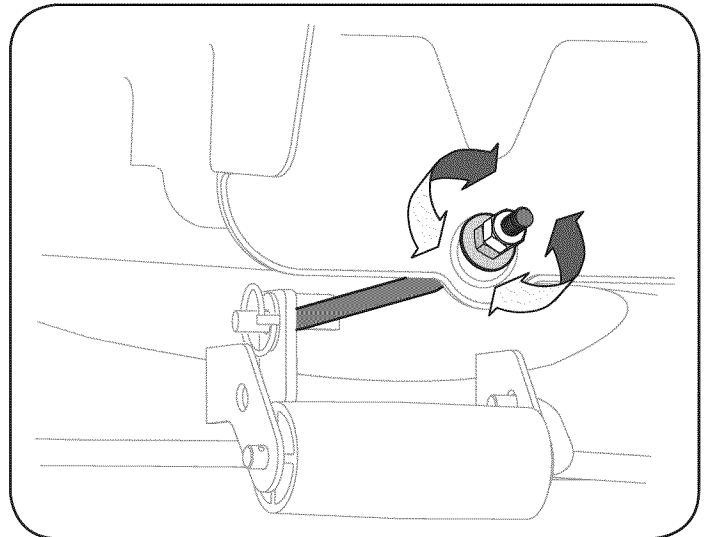

Figure 22
1. Loosen (thread outward) the hex lock nut on the end of the deck hanger rod. See Figure 22.
3. To *lower* the front of the deck, loosen (thread outward) the hex nut, away from the front hanger bracket. See Figure 22.